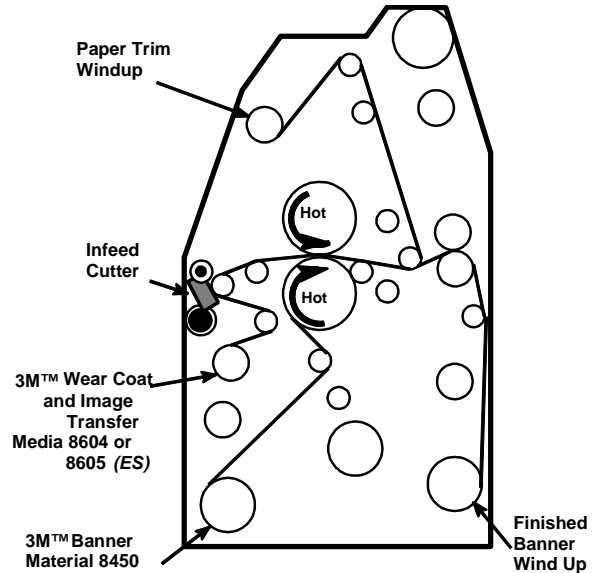

Figure 2. For Front Surface Imaging:
1. Figure 2 shows how to thread banner material and media 8604 ES or 8605 ES into the GBC/Pro-Tech ORCA III™ Laminator. Since this material has a built-in wear coat, an overlamine or protective clear must not be used.